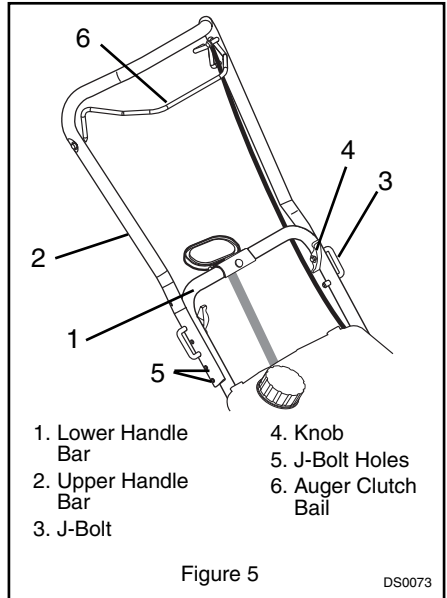

Figure 5
1. Remove retaining nuts and handlebar knobs and release J-bolts from lower handlebar (Figure 5).